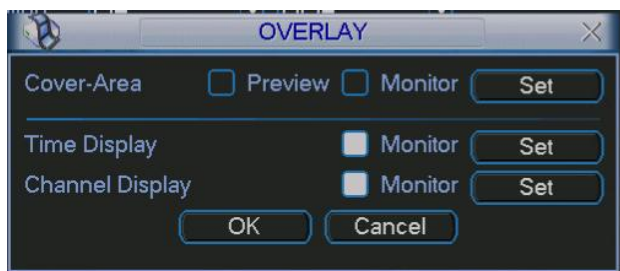

Figure 5-7
- **Overlay:** Click overlay button to see interface as shown in Figure 5-7.